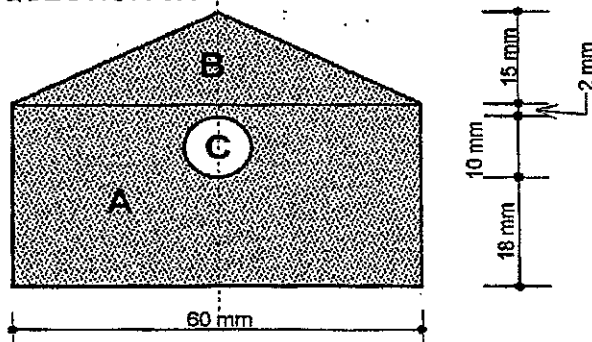

FIGURE 4
5.1 FIGURE 4, DIAGRAM SHEET (attached) shows the dimensions (in millimetres) of a thin metal plate of uniform thickness. Calculate the position of the centroid measured from the base. NO marks will be given for a graphical solution. (11)